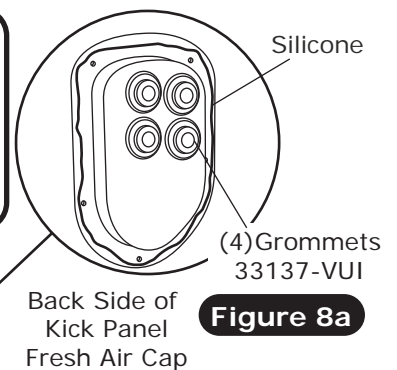

Figure 8a
1. Install (4) grommets in kick panel fresh air cap (See Figure 8a, below).
3. Apply a 1/4" bead of silicone around the back side of kick panel fresh air cap as shown in Figure 8a, below.